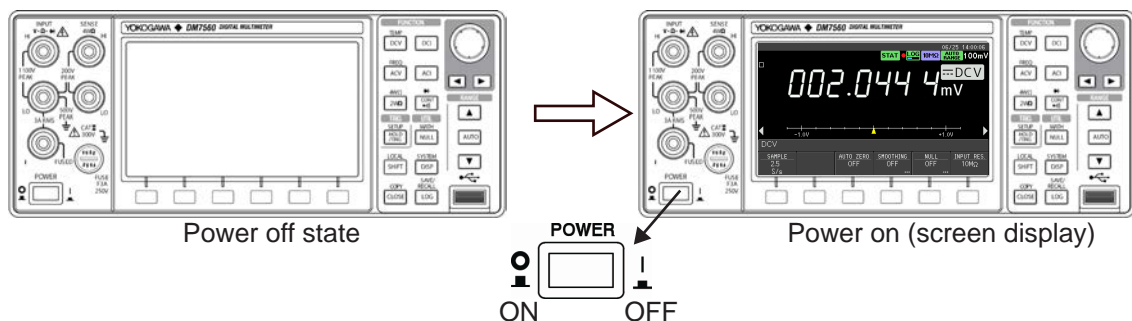

Figure 2.3 Powering on and off
- 3 Press the POWER switch on the lower left of the front panel (in Figure 2.3) to turn it ON. The initial setting screen (factory setting when the instrument is turned on for the first time after delivery) appears after several seconds.